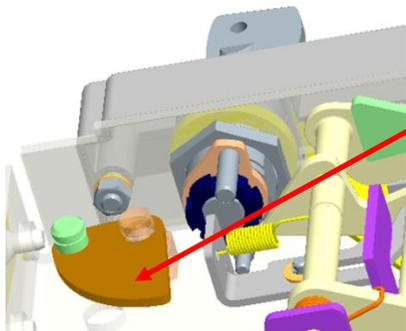

Figure 10
11. Assembly the front lever on the front lock support (Fig 10).